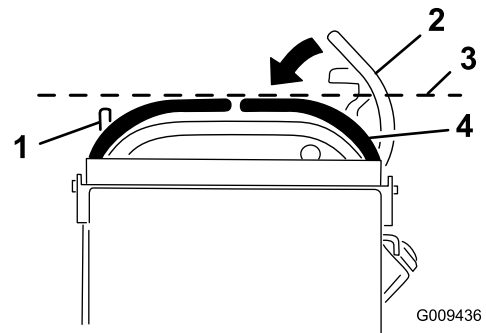

Figure 58
3. Push the motion-control levers down out of the NEUTRAL-LOCK position (Figure 58).
4. Check if the right motion-control lever aligns horizontally with the left motion-control lever (Figure 58).